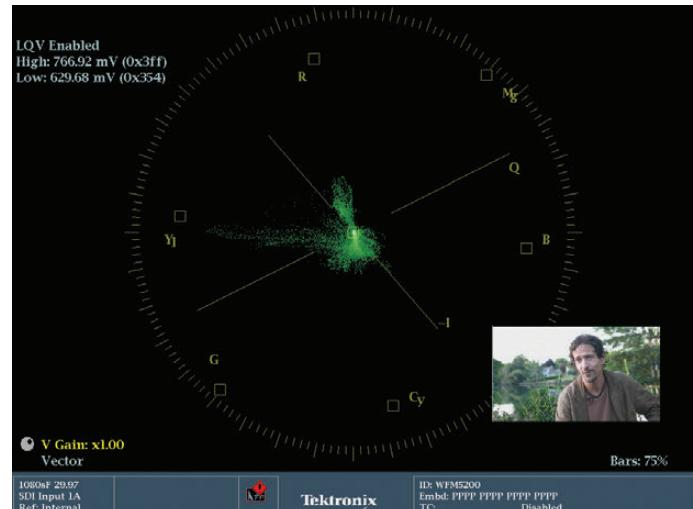
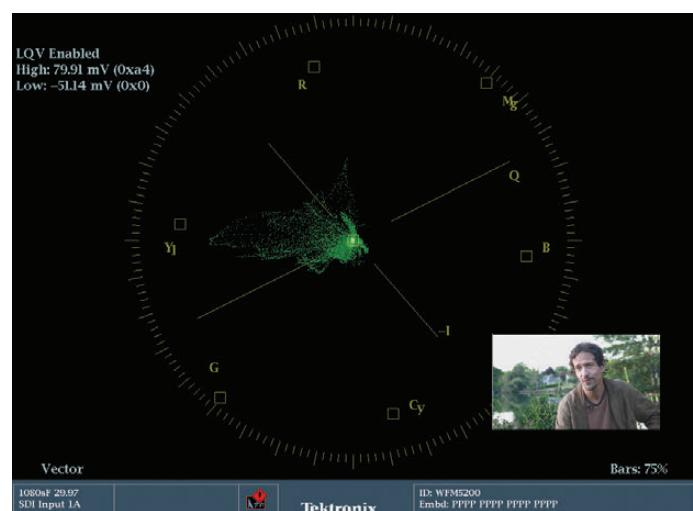

Figure 2-23. LQV Highlight selection.
Figure 2-24. LQV Shadow selection.
17. In steps 1-14 you created an LQV display for highlights (Figure 2-23). To create a similar LQV to display shadows (Figure 2-24), follow the directions in step 10, but change the LUMA HIGH value so that only the lowest 10% (or whatever your chosen level) is displayed. Using the math example in step 13, 70 millivolts is 10%. To set the upper range of your shadow range, add 70 to 0mv. If you prefer 20, set it at 140mv.
21. Use the **GENERAL** dial, turning counter clockwise, to adjust the level as low as it will go. This level is already probably set to the default of -51.14 mv. If so, there is no need to adjust it (see Figure 2-23).